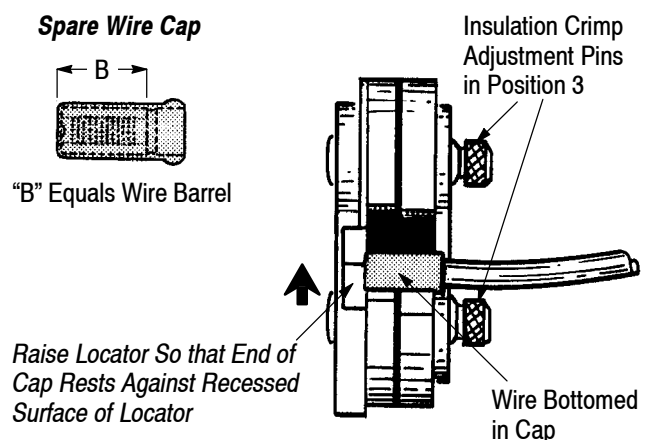

Figure 6
4. Raise the locator so that the end of the cap rests against the recessed surface of the locator as shown in Figure 6.